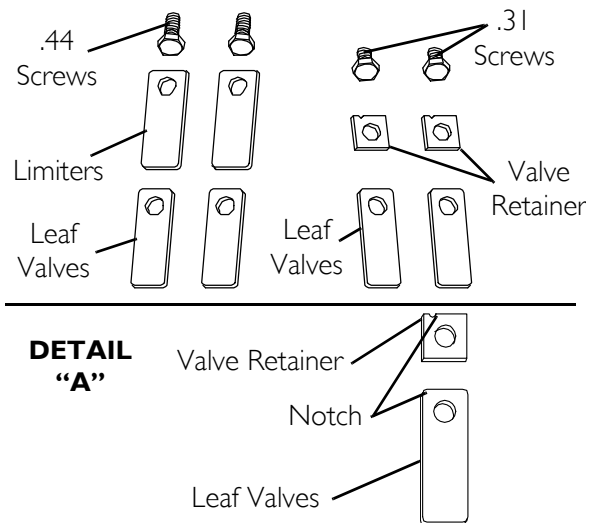
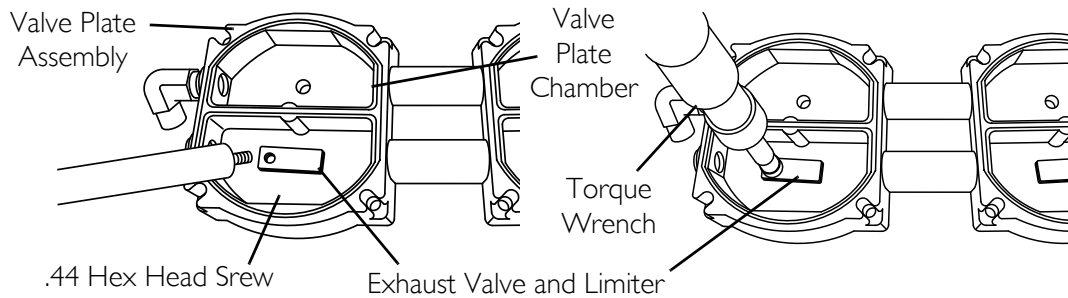

FIGURE 7.15 New Valves, Limiters, Screws
FIGURE 7.17 Installing New Exhaust Valves And Limiters
NOTE: For this procedure, refer to FIGURE 7.15, FIGURE 7.16 on page 48, and FIGURE 7.17 on page 49.
NOTE: Notice that the leaf valves and the valve retainers have a notch that should be oriented in the top left corner when installed (See Detail "A" in FIGURE 7.15).
- Turn the valve plate assembly over and install the new exhaust valves with limiters in the valve plate assembly (FIGURE 7.17).